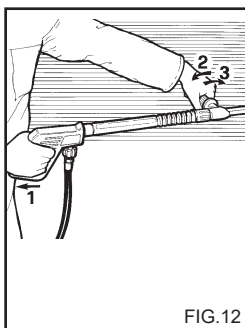
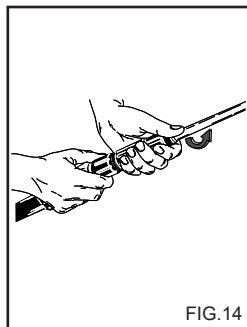

FIG.12
FIG.14
### USE OF THE DOUBLE LANCE (fig. 12) (optional accessory)
2) Detach the extension from the handgrip and fit the double lance or lance with adjustable head (fig. 14). Operate the high pressure washer, activate the detergent suction control on the lance (figs. 12, 13) and spray the surface to be washed, working from the bottom upwards.